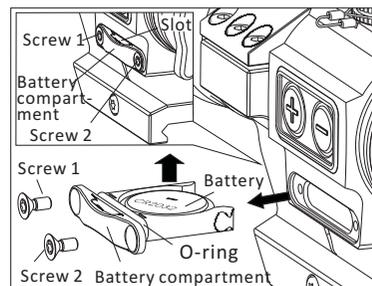

Fig2-1
1) Removing the battery ( Fig 2-1):